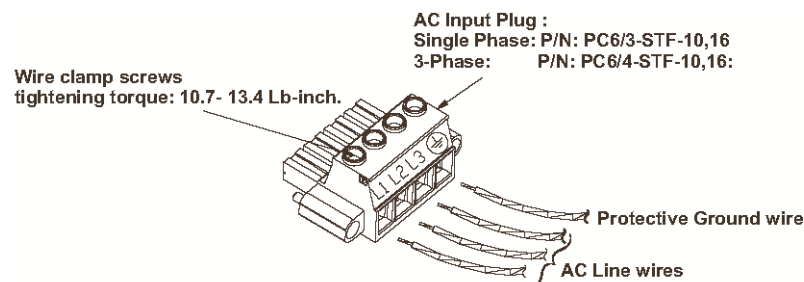

Fig.3-3: AC Input plug (3-Phase shown)
- d. Connect the AC wires to the terminals of the input plug supplied with the unit. To connect the wires, loosen the terminal screw, insert the stripped wire into the terminal and tighten the screw securely (10.7-13.4 Lb-inch) (1.21 – 1.5Nm) Refer to Fig. 3-3 for details. Pay attention to connect the wires according to the polarity marking on the plug.